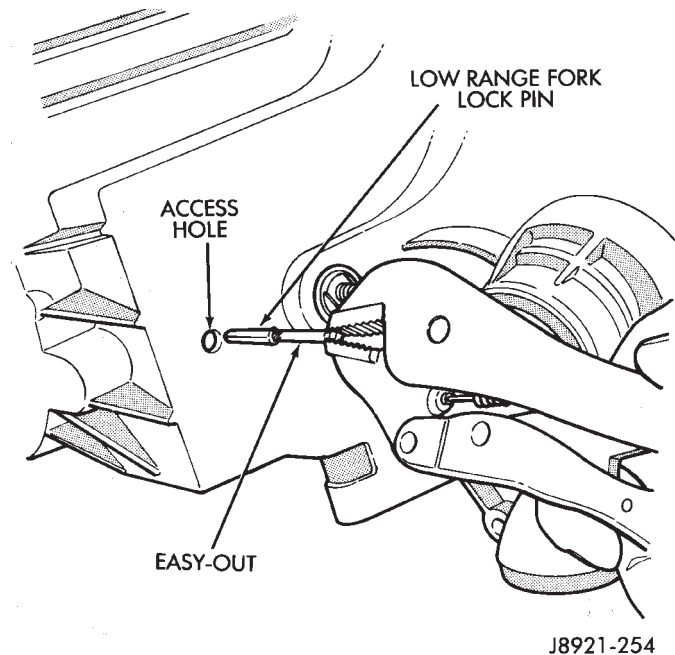

Fig. 15 Removing Low Range Fork Lockpin
(26) Remove seal plug from low range fork lockpin access hole. Then move shift sector to align low range fork lockpin with access hole (Fig. 15).
(27) Remove range fork lockpin with size #1 easy-out. Grip easy-out tool with locking pliers and remove pin with counterclockwise, twist and pull motion (Fig. 15).